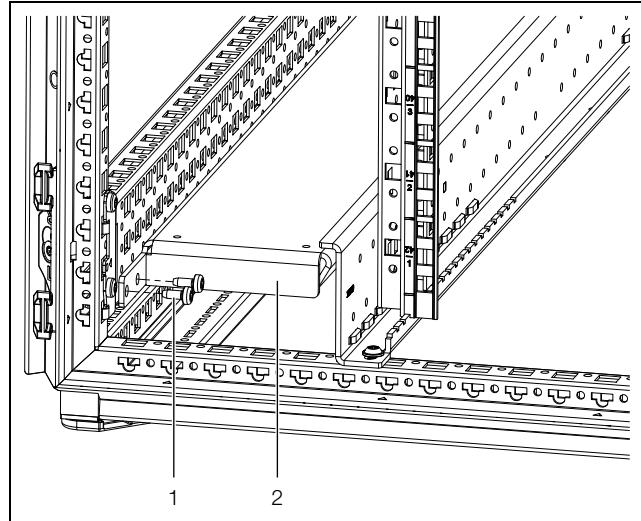

Fig. 13: Front fastening of the rail
- Secure the rail for mounting the LCU CW right at the front of the bottom punched section with mounting flange (see fig. 13).